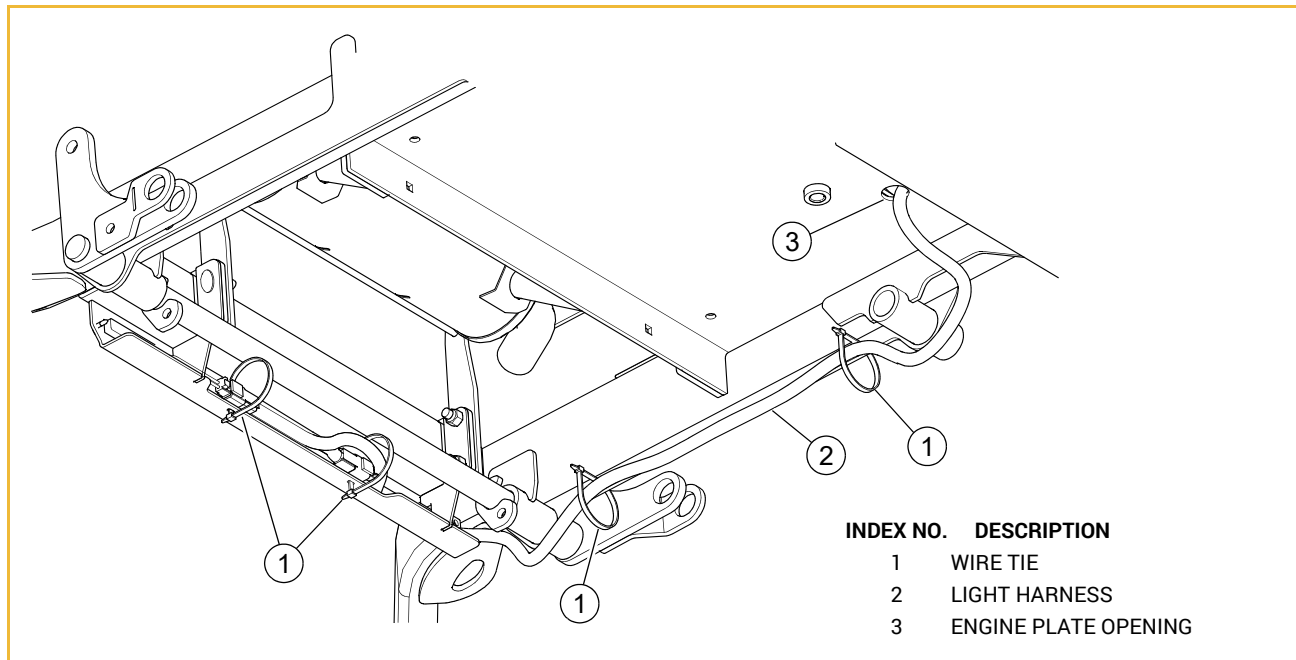

FIG. 3
7. Insert wire ties through the holes in the mower frame and then route the light harness along the inside of the frame, loosely securing it in place with the wire ties. FIG. 3
8. Route the light harness through the engine plate opening (not outside the frame) to the area in front of the engine. FIG. 3